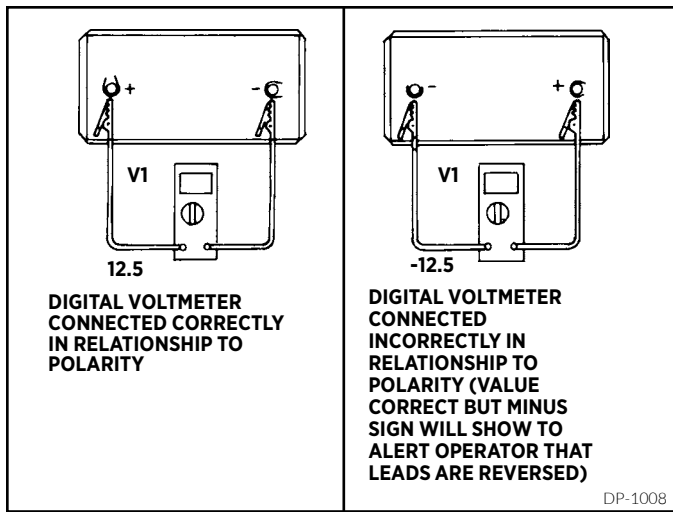

FIGURE 1-3. Correct and Incorrect Polarity Readings
3. Figure 1-3 illustrates the digital voltmeter reading in a DC system with both correct and incorrect polarity. Whenever the minus sign is displayed, the meter leads must be reversed to obtain the correct polarity.